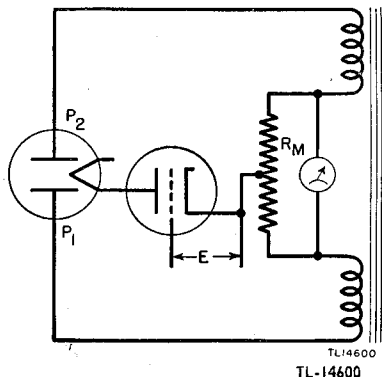

Figure 8. Tube Tester I-177, simplified mutual conductance test circuit.
b. If the vacuum tube to be tested is substituted for the fixed load resistance, and a fixed bias  $E$  is applied to the tube as in figure 8, the meter will still read zero because a vacuum tube under steady-state conditions acts like a fixed resistance.